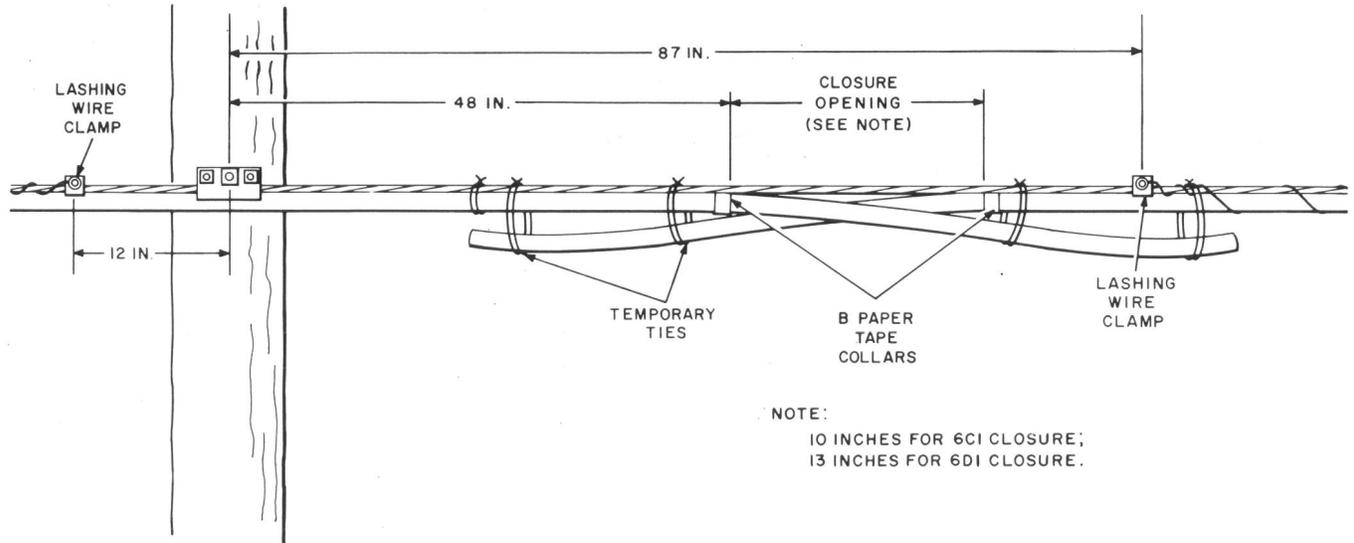

Fig. 5—Location of Closure at Intermediate Pole
3.03 Locate the closure at a straight aerial splice as shown in Fig. 5.